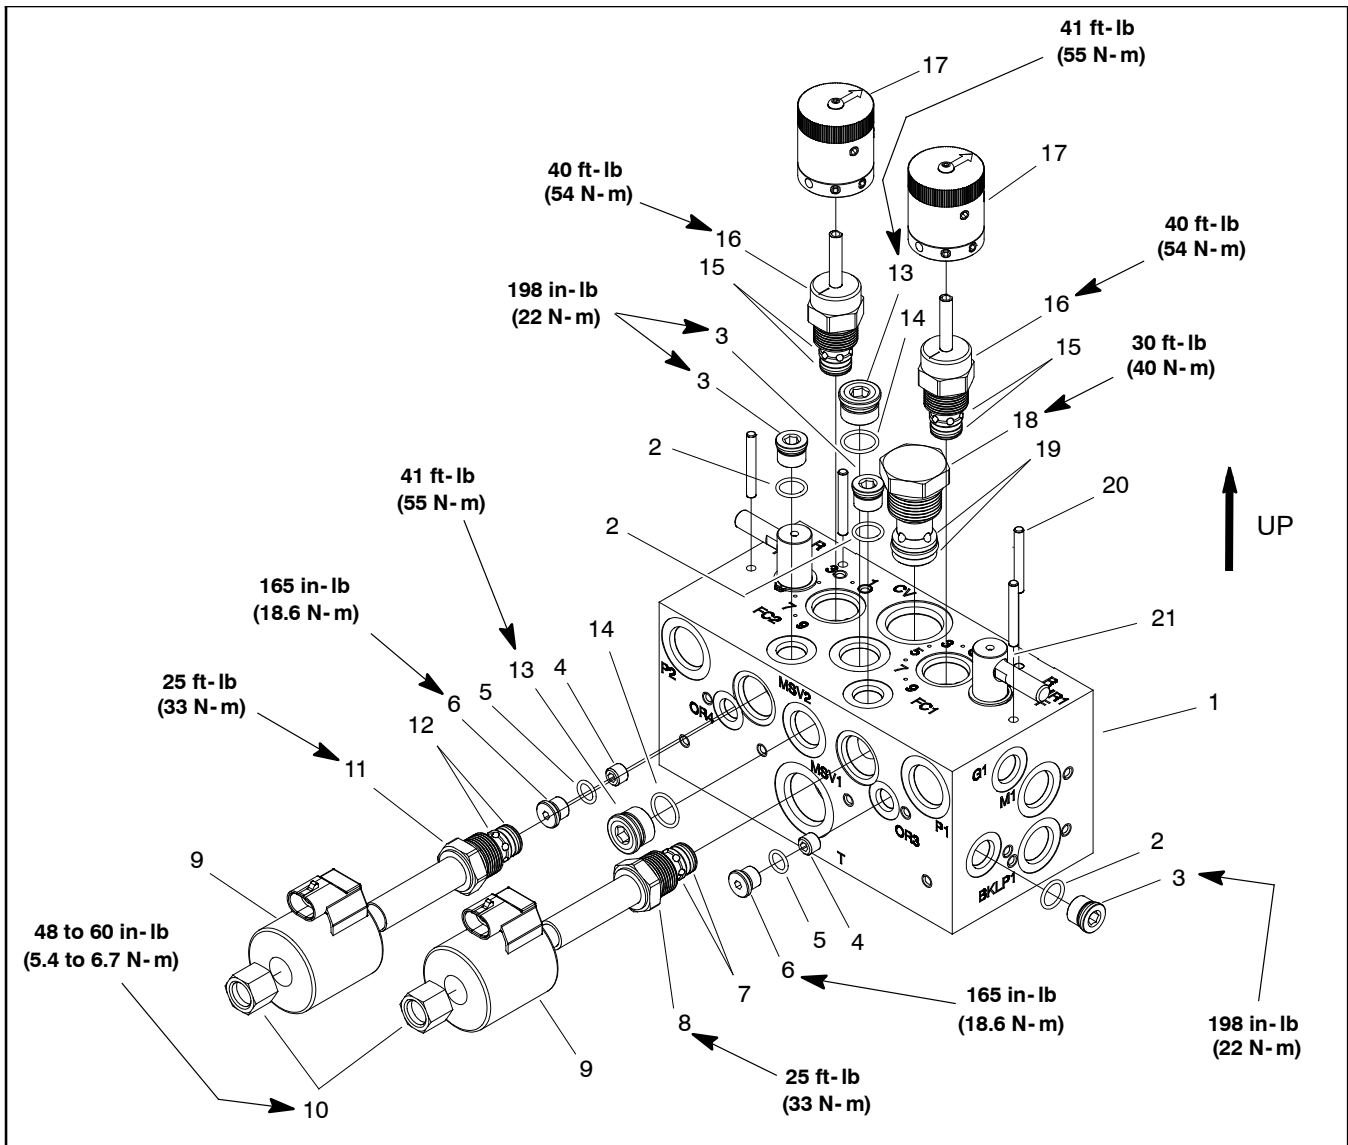

Figure 73
NOTE: The mow control manifold uses several zero leak plugs. These plugs have a tapered sealing surface on the plug head that is designed to resist vibration induced plug loosening. The zero leak plugs also have an O-ring to provide a secondary seal. If zero leak plug removal is necessary, lightly rap the plug head using a punch and hammer before using an allen wrench to remove the plug: the impact will allow plug removal with less chance of damage to the socket head of the plug. When installing plugs into the control manifold, torque plugs to the values identified in Figures 73 and 76.
C. Torque cartridge valve using a deep well socket to values identified in Figures 73 and 76.